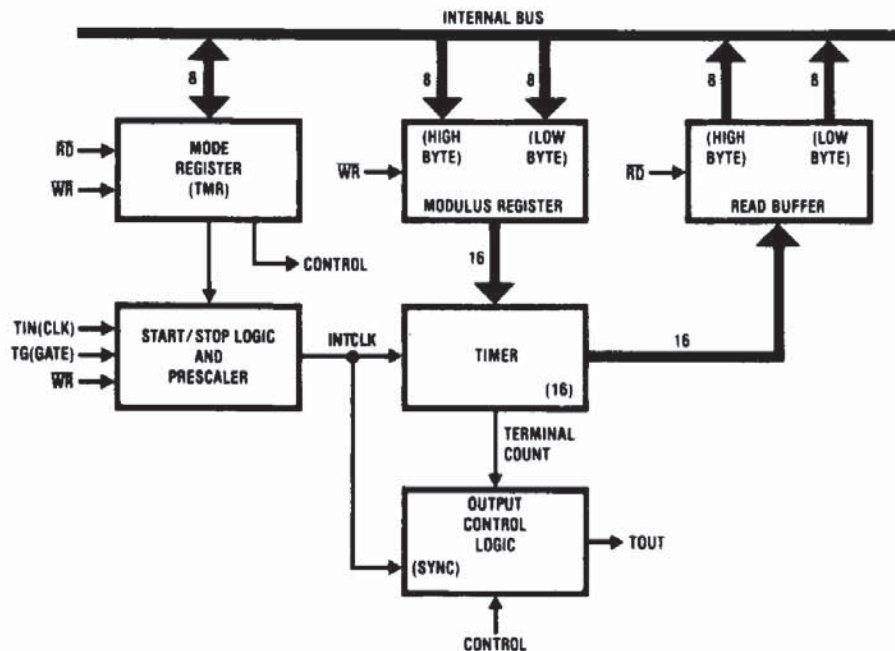

FIGURE 3. Timer Internal Block Diagram (One of Two Timers)
Primary components of one timer are shown in Figure 3. The timer mode register is a read/write register providing
the primary characterization of the timer output. The start/stop logic and prescaler block divides the clock input by the prescale factor, passing the output (INTCLK) to the binary down-counter. This block also gates the clock input signal (TIN) with the timer gate signal (TG). The timer block loads the modulus from the modulus register and uses (INTCLK) to count to zero. It loads the current count into the read buffer block where the CPU can access it at anytime. This timer block also indicates to the output control logic when the modulus is loaded (or reloaded) and when the count reaches 0. The output control logic block drives the output pins according to the timer mode register and the timer block. The output of the timer block (Figure 3) (terminal count) is related to the input TIN by:
The timer prescale divides the input clock (TIN) and provides the output (INTCLK) to the drive the timer block (Figure 3).